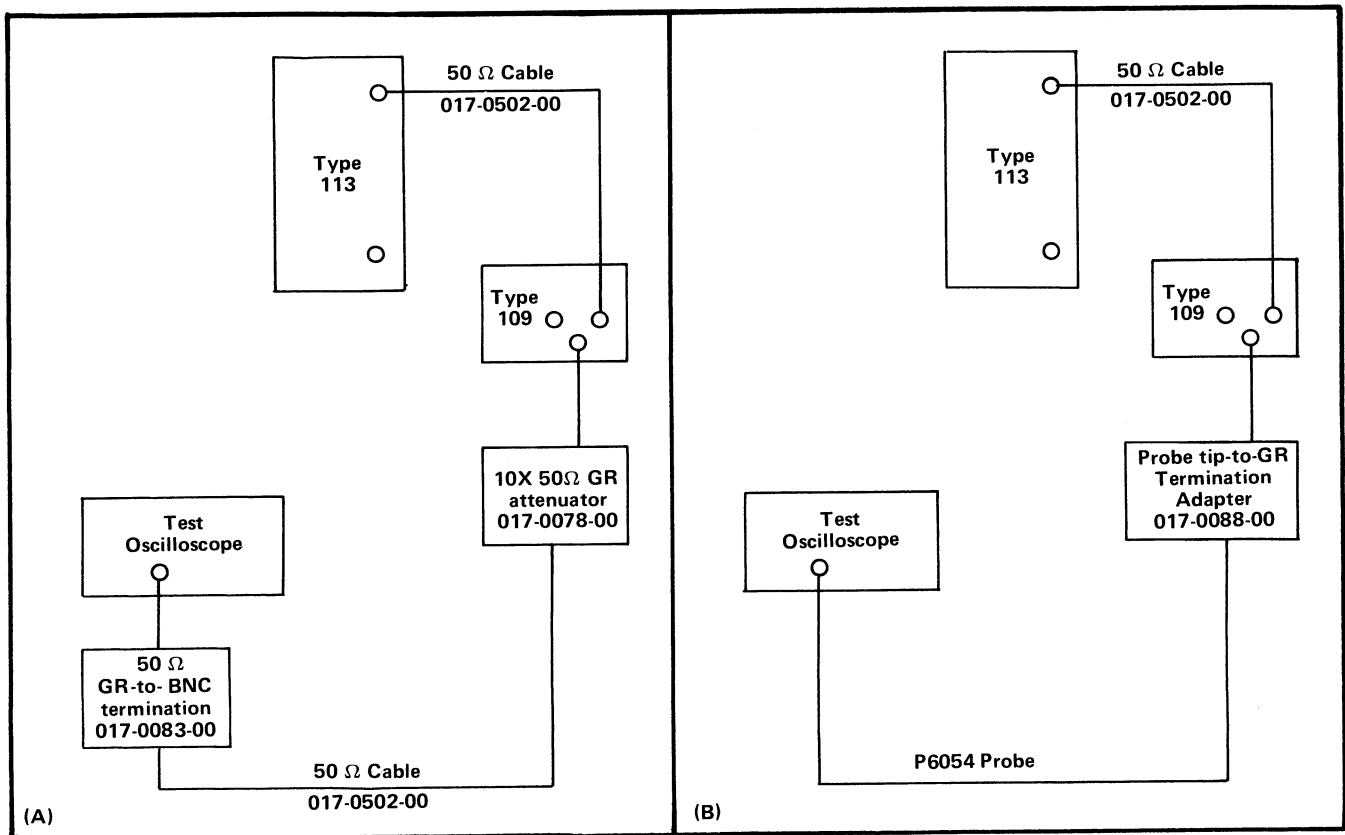

Fig. 4-3. Equipment setup for step 3.
a. Equipment setup is shown in Fig. 4-3(A).
h. Connect the probe tip to the 50  $\Omega$  Output of the Type 109, using a probe tip-to-GR termination adapter, 017-0088-00. See Fig. 4-3(B) for this setup.